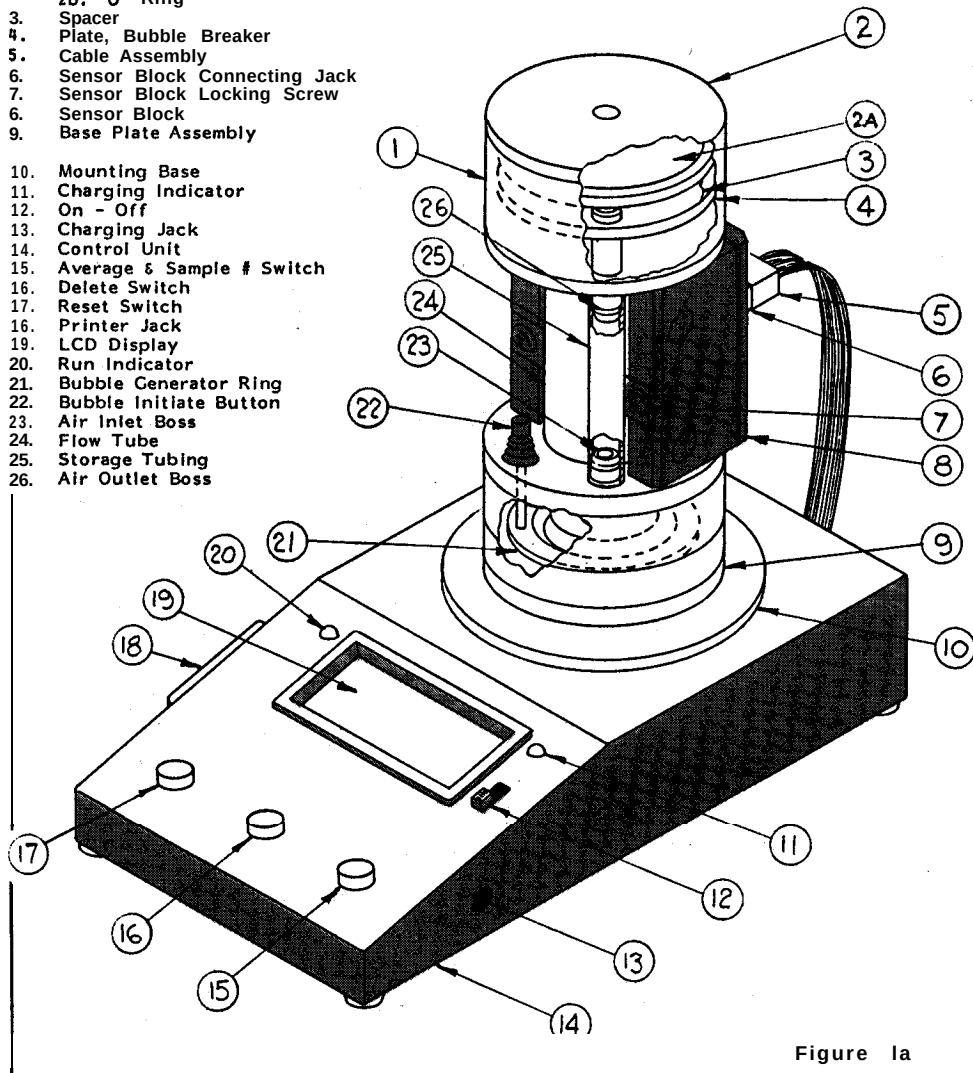

Figure 1a
General Description (See fig. 1a)
2. The Control Unit (base) (See fig. 1a)